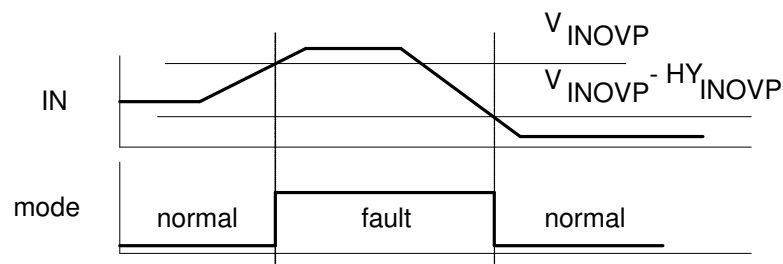

Figure 5 - Output over voltage Protection
1. Output over voltage protection (OOVP) is activated when the voltage at Pin IN rises above V_{INOVP} (figure 5).